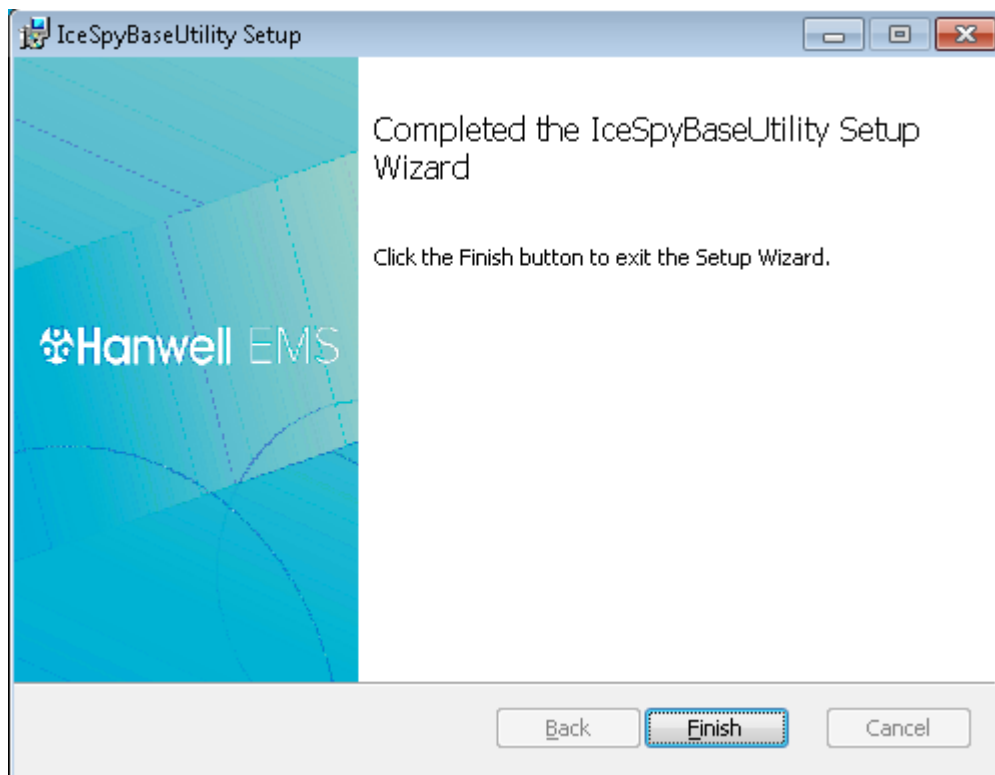

Figure 91
- The **IceSpyBaseUtility Setup – Completed the IceSpyBaseUtility Setup Wizard** window is displayed. See Figure 91 below: